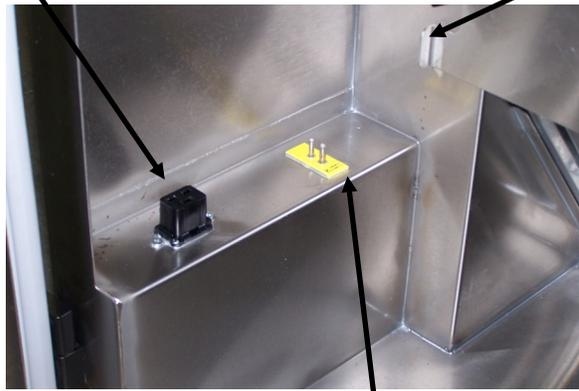

fig. 6 **Thermocouple Plug**
- Set the deflector onto the oil pot. The deflector helps to contain splashing oil to aid in keeping the AUTOFRY cleaner. The long slope of the deflector should extend toward the front of the AUTOFRY (see figure 6).
- Place the heater box onto the heater box shelf (fig. 6 & 7).
- The heater plug and thermocouple will connect to their respective sockets on the underside of the heater box and deck of the cabinet (fig. 6 & 7).